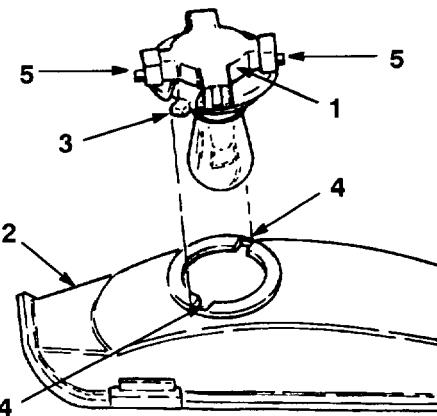

Figure 17
2. The bulb holder has two tabs (Fig. 17). Align the tabs with the slots in the reflector, insert the bulb holder into the reflector and rotate it 1/4 turn clockwise until it stops.
3. Rotate the bulb holder 1/4 turn counterclockwise and remove it from the reflector (Fig. 17).